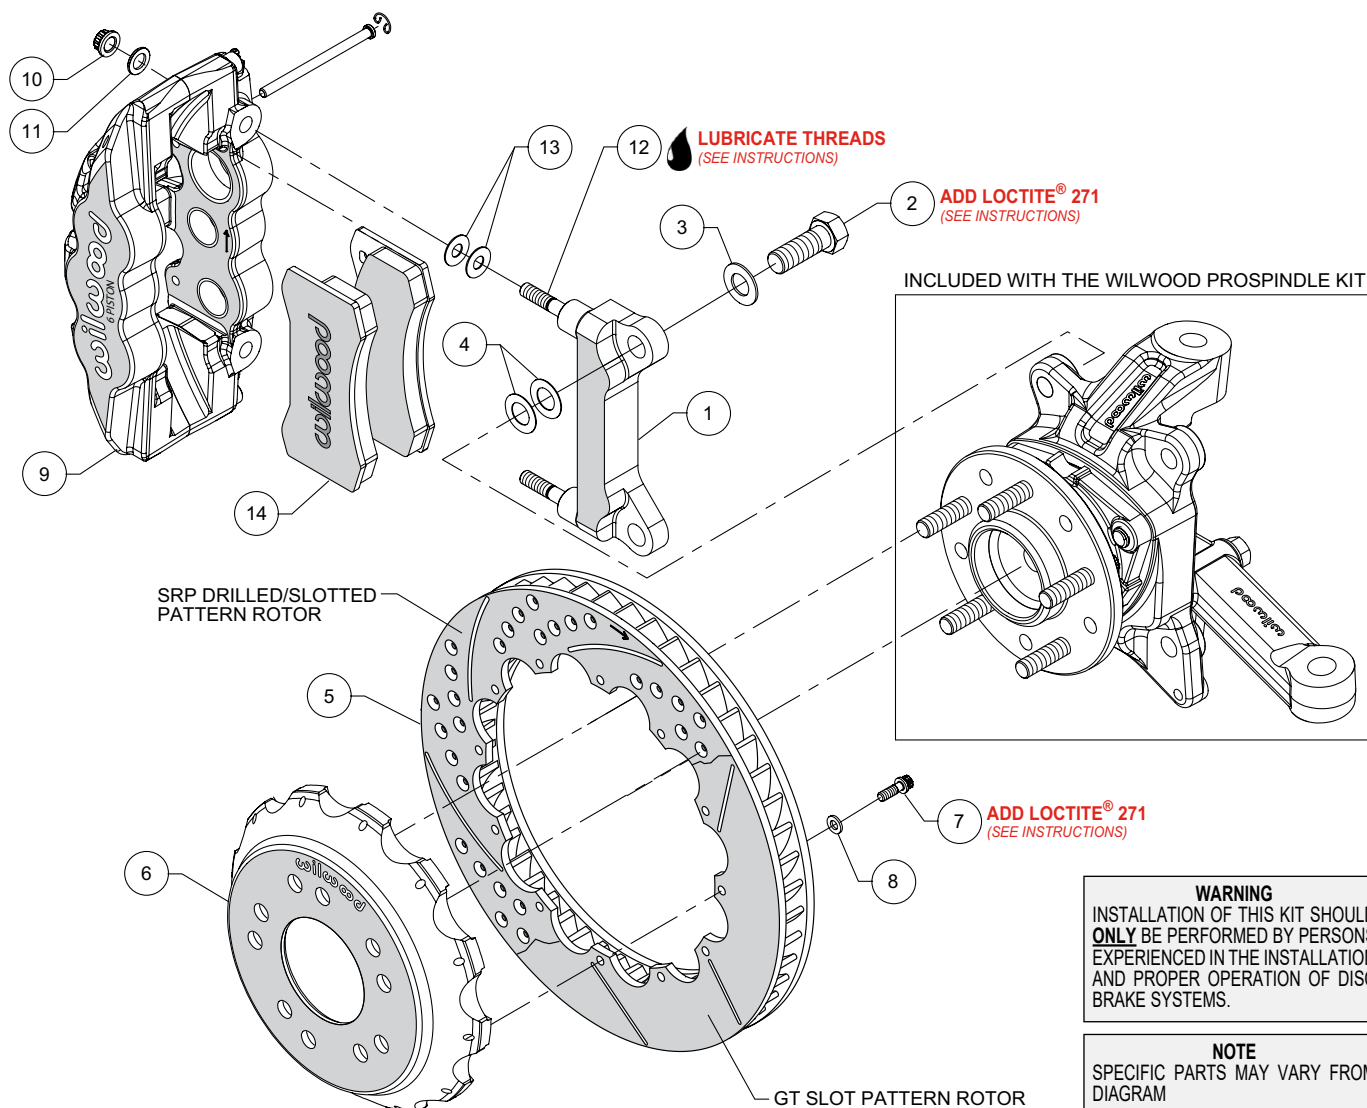
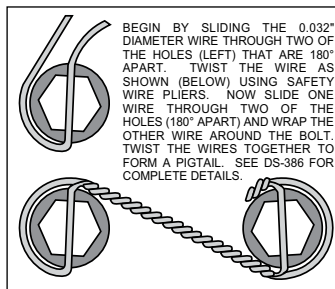

Figure 1. Typical Installation Configuration
Figure 3. Safety Wire Diagram
NOTE: Numbers in parenthesis refer to the parts list and Figure 1 on the preceding pages.
• The caliper mount bracket (1) should initially be installed with clean, dry threads on the mounting bolts. Orient the bracket as shown in Figure 1 and Photo 1 and install using mount bolts (2) and washers (3). Initially place two .024" thick shims (4) on each bolt between the bracket and spindle, Figure 1. Temporarily tighten the mounting bolts. **NOTE:** The bracket must fit squarely against the mounting points on the spindle. Inspect for interference from casting irregularities, machining ridges, burrs, etc. Later, after the caliper alignment has been checked, the mount bolts will be secured using red Loctite® 271.
- Orient the rotor (5) and the hat (6) as shown in Figure 1 and Photo 2. Attach rotor to hat using bolts (7) and washers (8). Apply red *Loctite*® 271 to the bolt threads and torque to 155 in-lb using a criss-cross pattern. For an added measure of security, the bolts may be safety wired using standard 0.032 inch diameter stainless steel safety wire as shown in Figure 3. Please refer to Wilwood's data sheet DS-386 (available at www.wilwood.com/Pdf/DataSheets/ds386.pdf) for complete safety wire installation instructions.
- **NOTE:** This kit contains distinct right and left hand calipers that must be mounted in a specific direction, as described below. Lubricate the caliper mounting studs (12) with lightweight oil. Initially place two .030" thick shims (13) on each stud between the caliper and the bracket, as shown in Figure 1 and Photo 5. Mount the caliper (9) onto the bracket (1) using lock nuts (10) and washers (11), Figure 1. Ensure that the caliper is mounted so the largest pistons are at the rotor exit end of the caliper, in relation to the direction of rotor rotation. Temporarily tighten the lock nuts and view the rotor through the top opening of the caliper. The rotor should be centered in the caliper, Photo 6. If not, adjust by adding or subtracting shims (4) between the bracket and the spindle. Always use the same amount of shims on each of the two mounting bolts. Once the caliper alignment is correct, remove the bracket mounting bolts one at a time, apply red *Loctite*® 271 to the threads, and torque to 140 ft-lb.
- Remove the two pad retaining pins from the caliper (9) by carefully popping out the pin retaining clips and sliding out the pins. Insert the brake pads (14) into the caliper from the bottom, Figure 1, Photo 7. With the friction material facing the rotor, secure the brake pads in place with the pad retaining pins and clips, Photo 8. Reinstall the caliper onto the caliper mounting bracket and temporarily tighten the lock nuts. Check that the top of the brake pad is flush with the outside diameter of the rotor, Photo 9. If not, adjust by adding or subtracting shims (13) between the caliper and the bracket. After the caliper pad height is set, torque the caliper lock nuts (10) to 47 ft-lb.